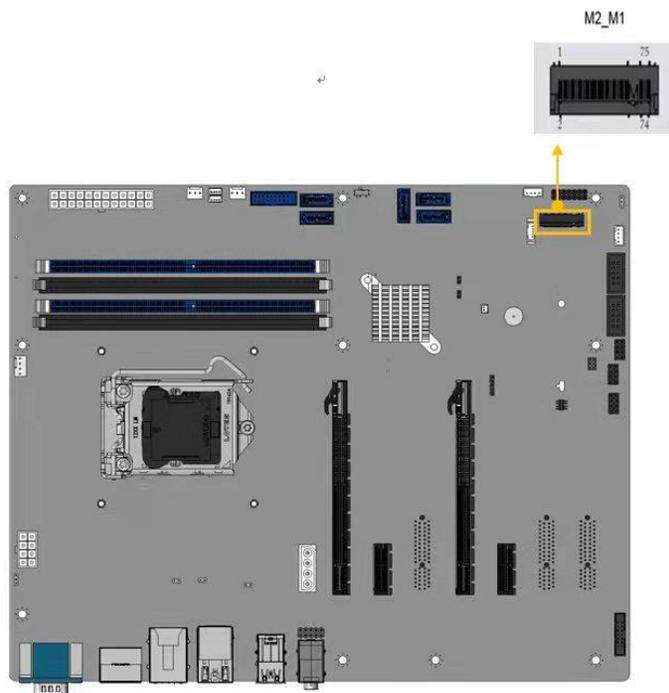

Figure 3-18: M.2 M-key slot
3.2.17 M.2 M-key (2240/2280) Slot
- CN Location:** See Figure 3-18